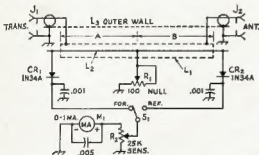

Fig. 1.—Schematic diagram of the WICER Varimatcher. Capacitors are 1,000 volt disc ceramic and values are in μ F.
R.f. from the transmitter is applied to the bridge at J1, Fig. 1. The current flows along L1 and out through J2 to
reactance, the Allen-Bradley (Ohmite) potentiometer was the least reactive. In practice, it compares favorably to the $\frac{1}{2}$ watt fixed resistors used. The bridge of Fig. 1 and Fig. 2 was nulled at 144 Mc. and held calibration over the entire range from 1.8 to 148 Mc.
If the bridge is to be used no higher than 30 Mc., it should be checked out on the 10 metre band. A Heath Canna or equivalent 50 ohm gummy load should be connected to J2. The more accurate the termination at J2, the more accurate the bridge will be. A home-made dummy load, usable at power levels of $\frac{1}{2}$ watt or less, is illustrated in Fig. 6. It is quite accurate from 1.8 to 55 Mc., but at 144 Mc. will show capacitive reactance as in the case of terminating resistor R1, Fig. 1. As this will cause the bridge to be inaccurate at 144 Mc., an effort should be made to borrow a good 50 ohm termination for 2 metre calibration. If the Varimatcher is to be used on 2 metres, the initial checking should be done at that frequency.
A more compact version of the Varimatcher is shown in Fig. 3. The bridge element is bent into a U shape to cut down on the space required in the box. No outer channel (L3) is used, as the sides and the bottom of the box tend to serve that purpose. The length of L1 is six inches in this model, but the circuit is the same as that shown in Fig. 1. A 2 x 4 x 4 inch utility box is used to house the bridge and the layout is symmetrical. Details are shown in the photo.
Fig. 3.—A miniature version of the Varimatcher. L1 and L2 have been bent into a U shape to conserve space. The circuit is the same as Fig. 1 but the length of L1 has been reduced to six inches. The bridge cabinet measures 4 x 4 x 2 inches.